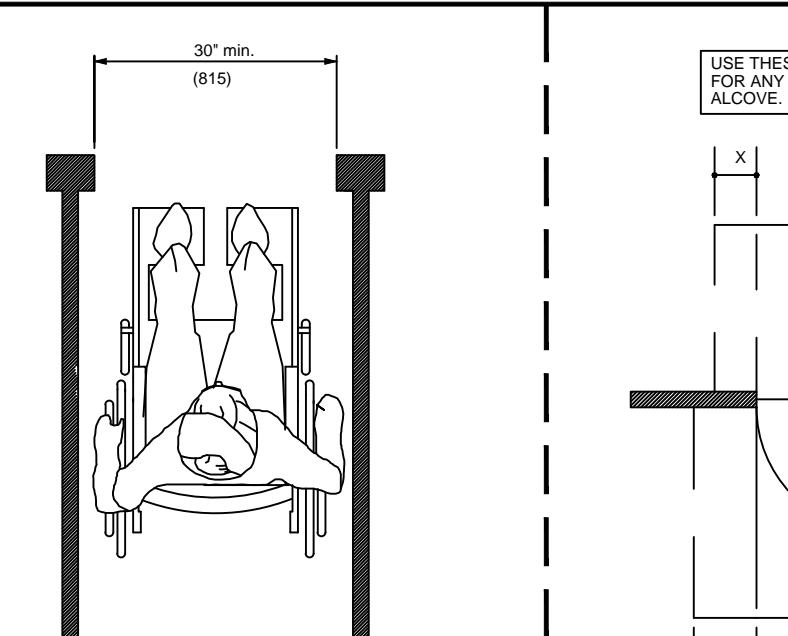

FIGURE 1
1. THE MINIMUM CLEAR WIDTH FOR SINGLE WHEELCHAIR PASSAGE SHALL BE 32 IN (815 MM) AT A POINT AND 36 IN (915 MM) CONTINUOUSLY (SEE FIGURE 1).